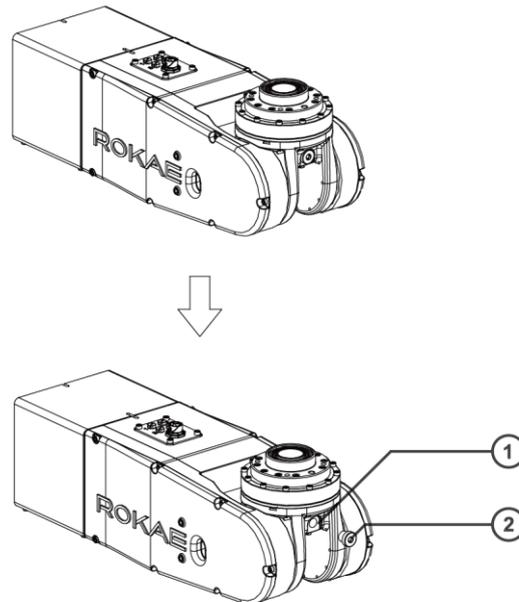

Fig. 37 Grease refill
- 1) Rotate the wrist from zero to 90 degrees upward (as shown in Fig. 37). Turn off the power;